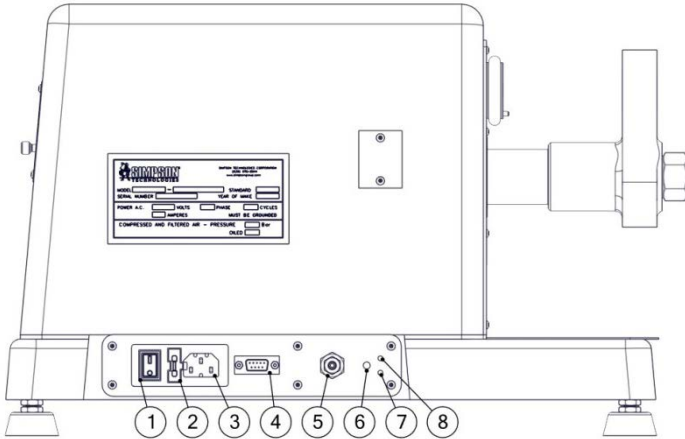

Figure 7.1: Back View
2. Position an empty cup with a capacity of approximately 200/300 ml below the strength machine vent port (Figure 7.1, Item 6). The cup will capture the expelled used oil from the strength machine.
5. During this cycle the strength machine will pump out used oil from the vent port (Figure 7.1, Item 6) into the catch container. Repeat Step 4 and allow time between cycles for the oil to drain out of the strength machine. Continue repeating Step 4 until the used oil is completely drained from the strength machine.
6. After draining, place the strength machine in its normal upright position. Connect a small hose into the unplugged vent port (Figure 7.1, Item 6).
1. Turn the power switch to the on position (Figure 7.1, Item 1).
1. Turn the power switch to the on position (Figure 7.1, Item1).